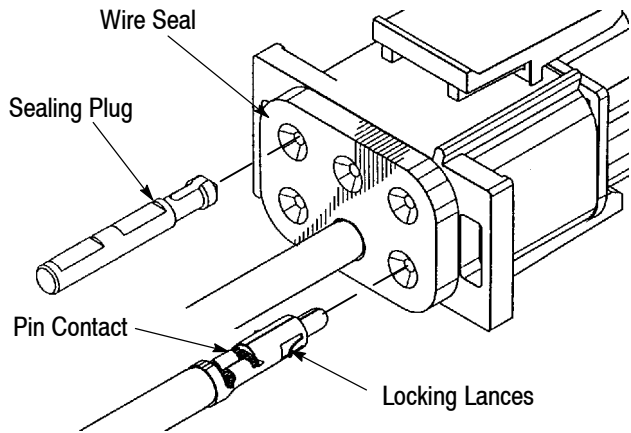

Figure 11
4. Reset contact locking lances to their original position before re-inserting contacts through wire seal and into housing. Seal any unused cavities with sealing plugs. See Figure 11. Damaged contacts must be replaced.